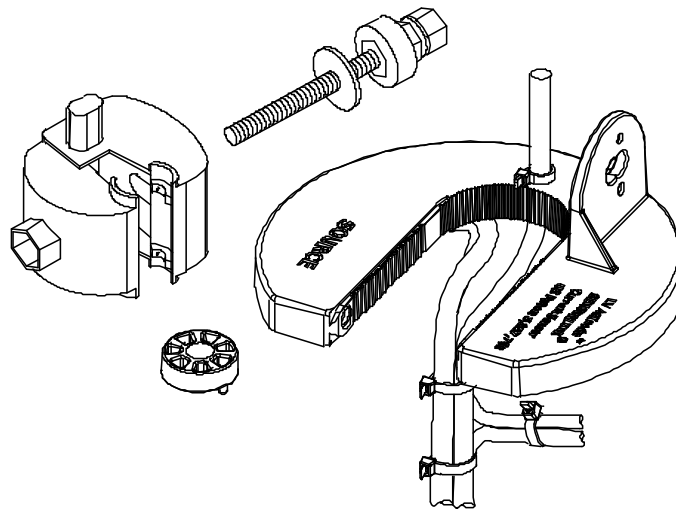

Figure 2.
1. Unscrew and remove the connector mounting bolt. Remove the small voltage connector (two parts) and the voltage mounting spacer. See Figure 2.